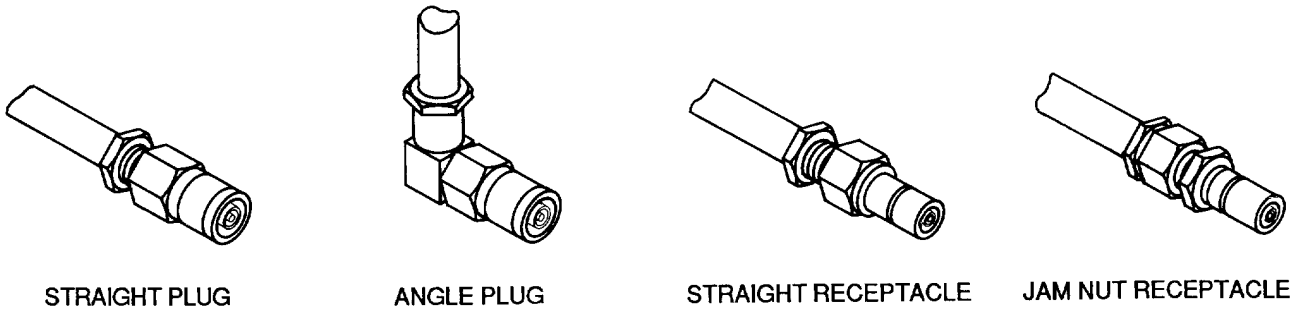

Figure 19. Typical SMB Series Connectors
49. **Series SMB Connectors.** These connectors are subminiature, snap on coupling connectors approximately the same size as SMA series. These connectors operate to 10,000 MHz (Figure 19).